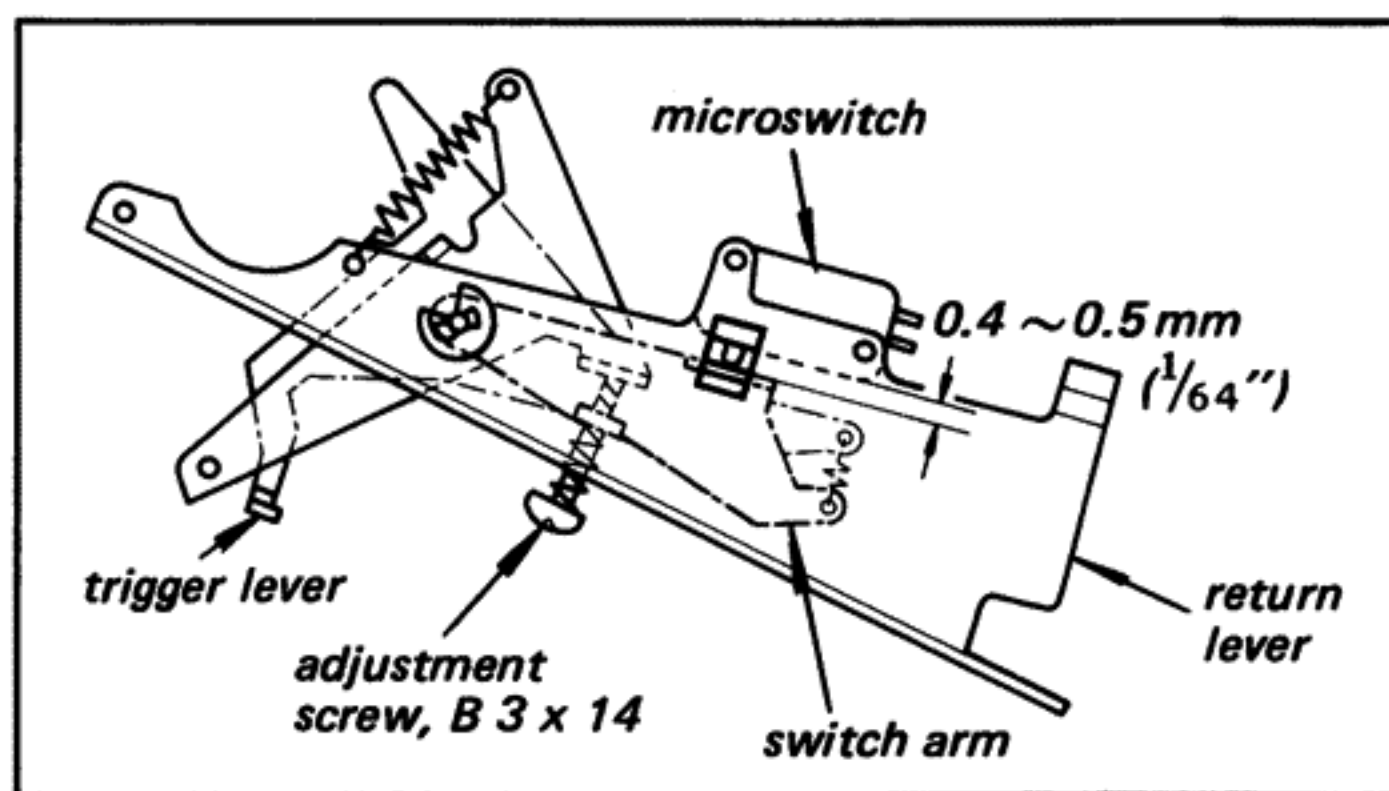

Fig. 3-14. Microswitch adjustment (1)
1. With the trip pawl (A) not engaging with the turntable shaft, adjust by turning the adjustment screw so that the clearance between the switch arm and the microswitch is 0.4 ~ 0.5 mm ($\frac{1}{64}$ "') as shown in Fig. 3-14.